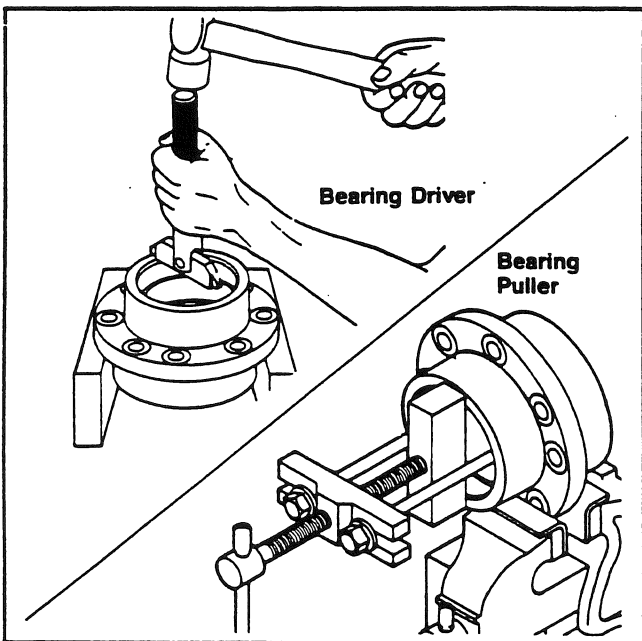

Fig. 23
7. Use a press and sleeve, bearing puller or a hammer and brass drift to remove the drive pinion inner and outer bearing cups (see Fig. 23). When using a press, support the bearing cage under the flange with metal or wood blocks.